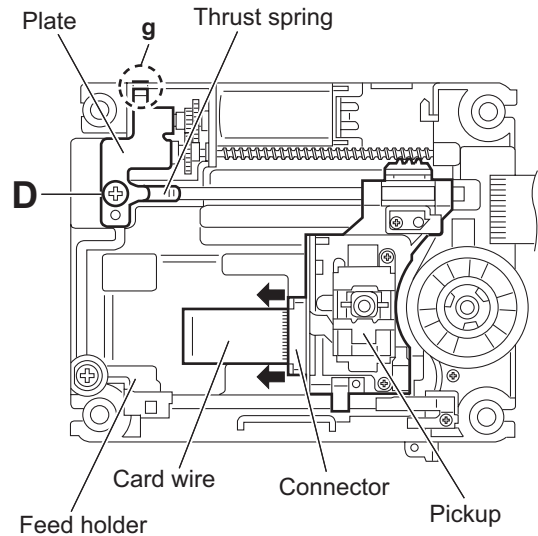

Fig.7
- (2) Release the lock of the connector on the pickup in the direction of the arrow and disconnect the card wire. (See Fig.7.)
- (3) Remove the screw **D** attaching the plate and thrust spring. (See Fig.7.)
- (4) Remove the engagement section **g** attaching the plate to the feed holder and remove the plate with the thrust spring. (See Fig.7.)
- (3) Attach the plate and thrust spring. (See Fig.7.)
3.3.6 Removing the feed motor (See Figs.7,11 and 12)
- (1) From the top side of the traverse mechanism assembly, remove the screw **D** attaching the plate and thrust spring. (See Fig.7.)
- (2) Remove the engagement section **g** attaching the plate to the feed holder and remove the plate with the thrust spring. (See Fig.7.)